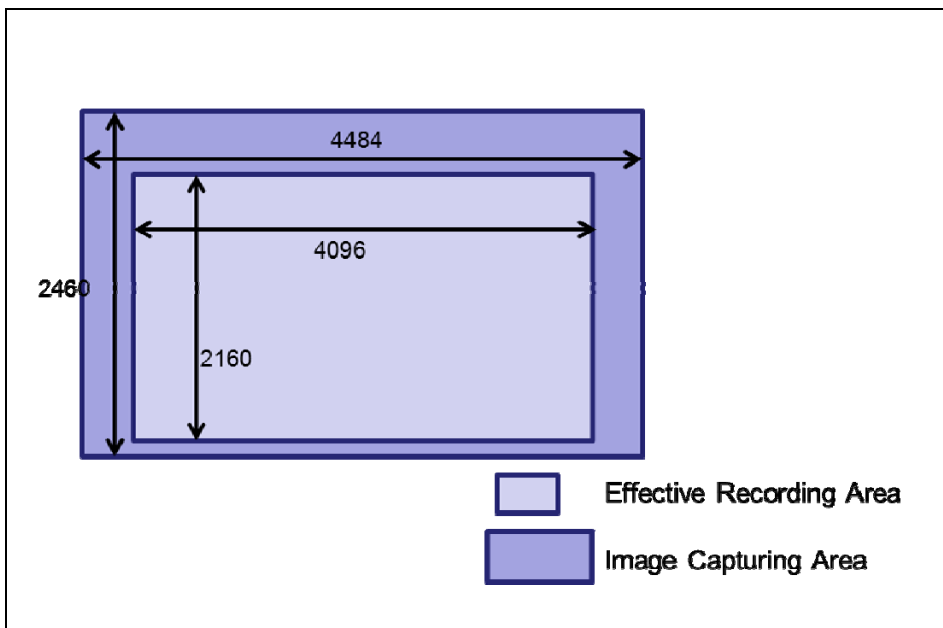

Figure 3-4-1. Pixels of Image Sensor
Figure 3-4-1 shows the number of pixels on the image sensor. The effective number of pixels for recording video are 4096 (H) × 2160 (V). In addition to the active imaging area, there are the extra pixels, when these extra (surround pixels are read) they provide a “look-around” or wide view of the camera’s field of view. Although not used when recording 4k content, those extra “look-around” pixels provide the equivalent of an optical viewfinder, giving the ability to see things approaching the camera active field of view. These are items such as microphone booms, dollies, DIT carts, and the plethora of production paraphernalia that you do not want in the shot. The ability to see what is about to enter the shot is a useful and time saving one.